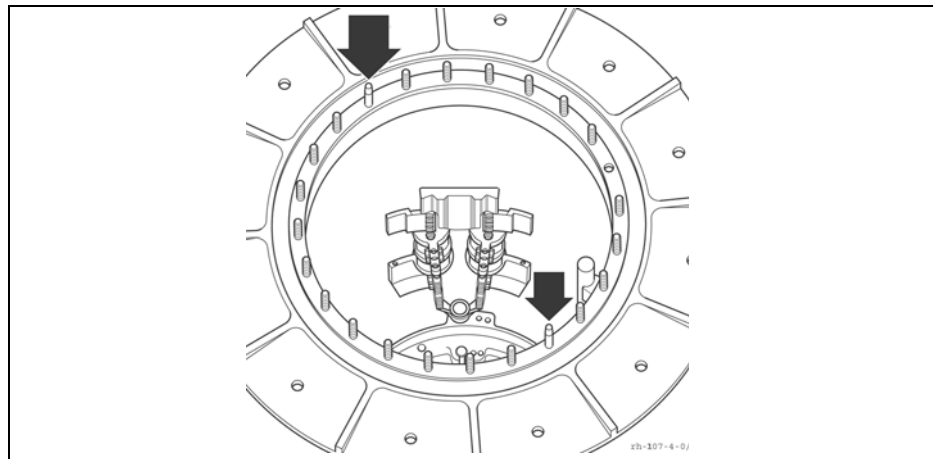
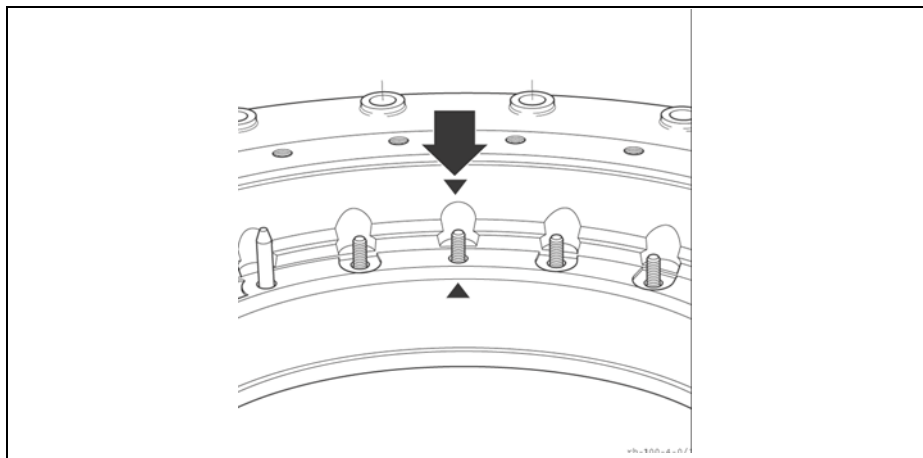

Figure 22 Adjusting bolts
Figure 23 Markings
4. Position the on-load tap-changer head onto the mounting flange. Pay attention to the two adjusting bolts (**Figure 22**) and the marks on the supporting flange and on-load tap-changer head (**Figure 23**), which ensure assembly in the correct position. Depending on the specified height, a distance of 5-20 mm must be left between on-load tap-changer head and supporting flange.